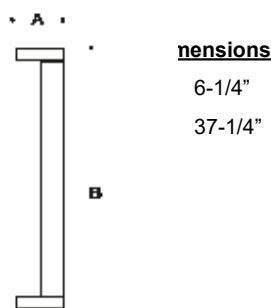

Figure 1: 79817 anchor kit installation:
2. Assemble anchorage kit. Unscrew the (3) 5/16" hex bolts from the female couplers. Remove each hex bolt and washer. Align each anchor bolt with the hole in the template. Attach each anchor bolt to the template by replacing the washer and hex bolt and tightening. Do not remove nuts and washers from bottom of anchor bolt; this provides the pullout force. See Figure 1.
- A. Attach template to forming or cross bracing using the (2) nail holes provided in the template. Level template properly. Pour concrete.
- Note:** Bollard has free rotation for aiming. However, to avoid set screw aligning with notch in bollard base, recommended anchor orientation is shown in Figure 1.
5. Place template and screw (3) hex bolts to anchor bolts.